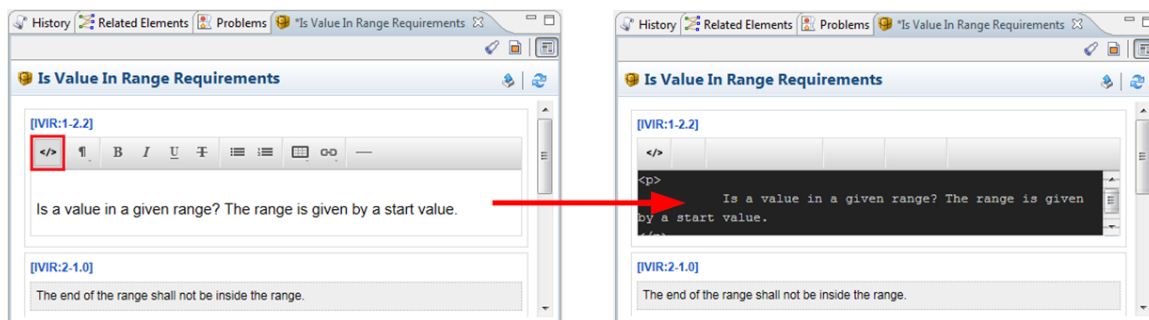

Figure 6.133: HTML editing within the inline editor (WYSIWYG and plain HTML)
- With a click on the icon  you can switch between the WYSIWYG editor and plain HTML (see figure 6.133).